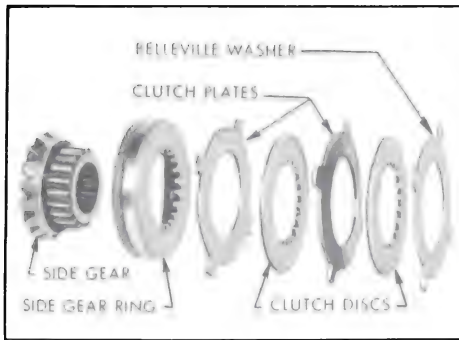

Figure 6-40—Clutch Pack
Each clutch pack consists of three clutch plates which are keyed to the differential case by external lugs, and two clutch discs which are splined internally to the side gear ring. The gear ring is splined to the side gear which is in turn splined to the axle shaft. Whenever a load is applied to the differential, each side gear ring is forced outward, squeezing its clutch pack against the differential case. See Figure 6-40.
4. Oil clutch plates and discs thoroughly with Special Positive Traction Lubricant and install clutch packs. If inspection showed plates and discs to be in good condition, install original side gear ring and clutch pack on each side gear according to Figure 6-40. If any plates or discs were defective, install two new clutch packs.